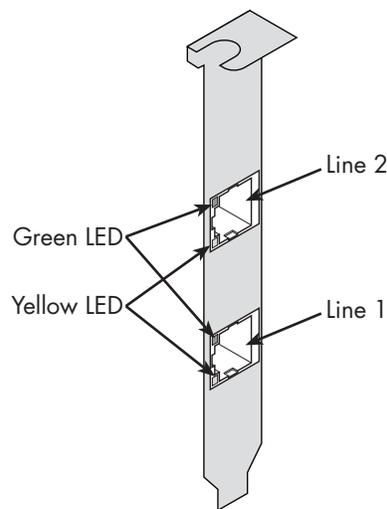

Figure 5. PE1 & PE2 Connector Locations
The position of the PRI connectors is shown in figure 5.
9. Connect the PRI line(s) to the adapter. If the adapter is a RAS PE1, only Line 1 (see figure 5 on page 31) is active. If the adapter is a RAS PE2, two PRI lines are supported and both connectors may be used.